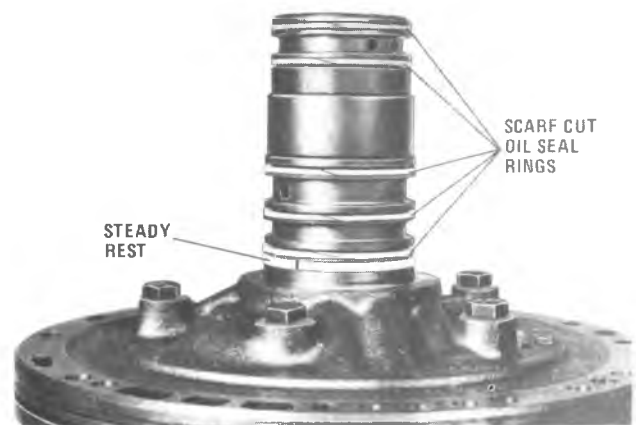

Figure 7A5-45 Pump Tower
3. If damaged remove two (2) forward clutch to pump hub scarf cut oil seal rings and three(3) direct clutch to pump hub oil rings. Do not remove unless replacement is required. (Figure 7A5-45)